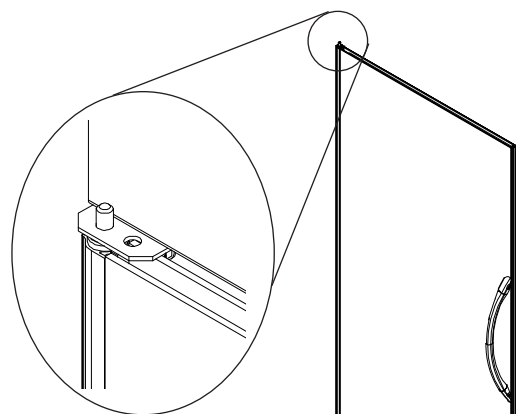

Figure 15-3
B. Depress pin in door and engage pin in mullion as shown in Figure 15-3.